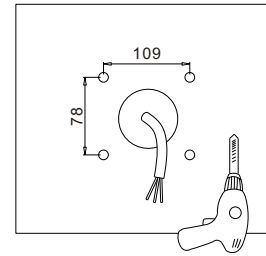

Figure 12
1. Cut holes on the wall according to locating plate. (Figure 12)